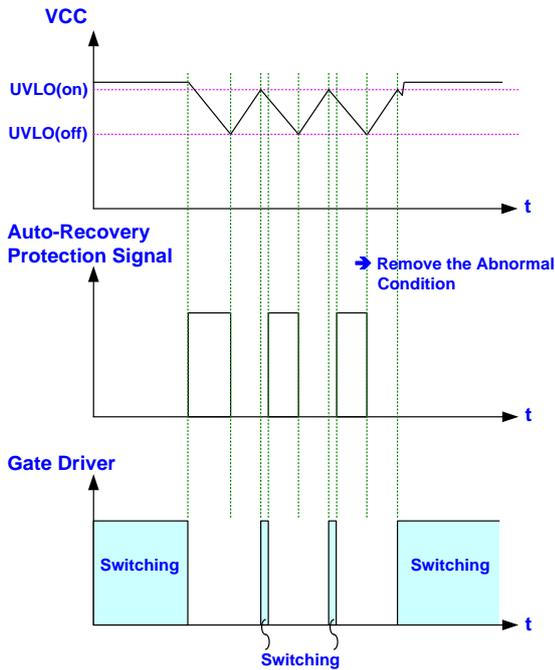

Fig. 36
As auto-recovery protection circuit latches the operation, the gate output will switch for a short term as every time VCC rises back to UVLO(ON). It therefore forces the VCC hiccup between UVLO(ON) and UVLO(OFF). As soon as the fault condition is removed, the system will resume its operation right away. Fig. 36 shows the operation.